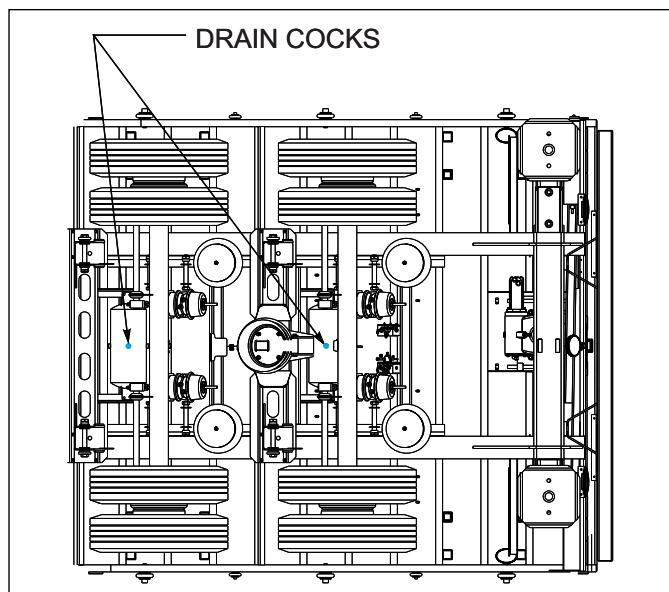

Figure 4-13: Drain Cock Locations
4. Drain air reservoir daily. A drain cock on the bottom of each air reservoir vents the tank to drain collected water and oil. If held open, air pressure in the tanks is relieved, causing the emergency or parking brakes to be applied (See Figure 4-13.)